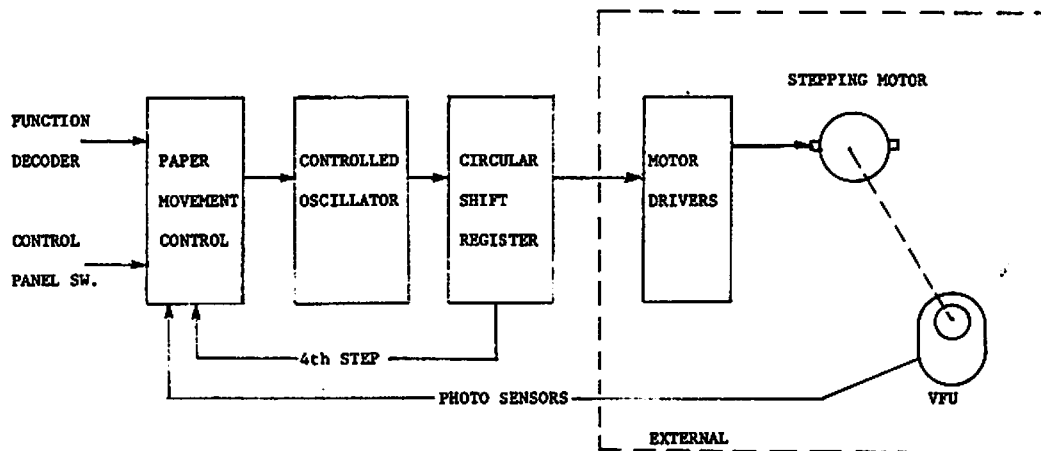

FIGURE 4-3 PAPER MOVEMENT
4.2.2 PAPER MOVEMENT (Figure 4-3)